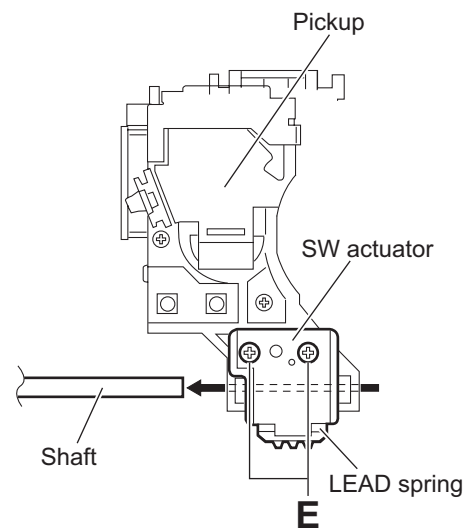

Fig.9
- (7) From the bottom side of the pickup, remove the two screws **E** attaching the SW actuator and LEAD spring. (See Fig.9.)
- (8) Pull the shaft out of the pickup. (See Fig.9.)
- (1) Attach the shaft, SW actuator and LEAD spring to the pickup. (See Fig.9.)